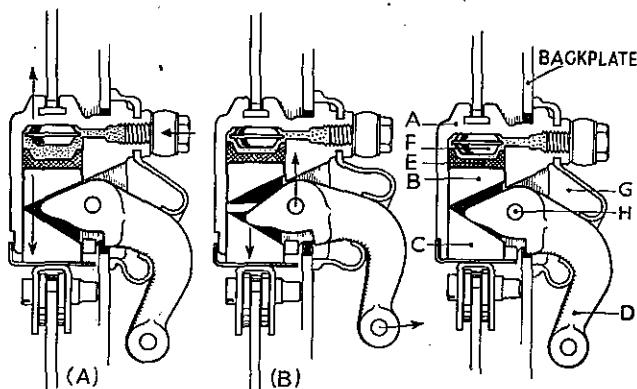

Fig. 3
REAR WHEEL CYLINDER (See Fig. 3)
The wheel cylinder (A) contains a single piston split in two, the inner piston (B) being hydraulically operated while the outer piston (C) is manually operated by the handbrake lever (D). The inner piston is backed by a rubber cup (E) and the space in front of the cup is partially occupied by a cup filler (F). When operated hydraulically, as in (a) of Fig. 3, the inner piston butts against the outer piston, leaving the handbrake lever (D) undisturbed, and applies a thrust to the tip of the leading shoe through the dust cover, "MICRAM" adjuster and mask. When operated manually, as in (b) of Fig. 3, an inward movement of the handbrake lever brings the heel of the lever into contact with the outer piston (C), thrusting it outwards against the leading shoe without disturbing the inner piston. A rubber boot (G) is fitted to exclude foreign matter.